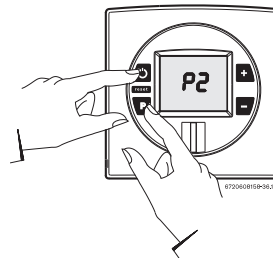

Fig. 69
- ▶ While holding the Program (P) button, press the ON/OFF button to turn ON the heater (see Fig. 69). As soon as '188' flashes on the display, release the Program button. The display should now read P2. Press  button until "P1" appears on display.